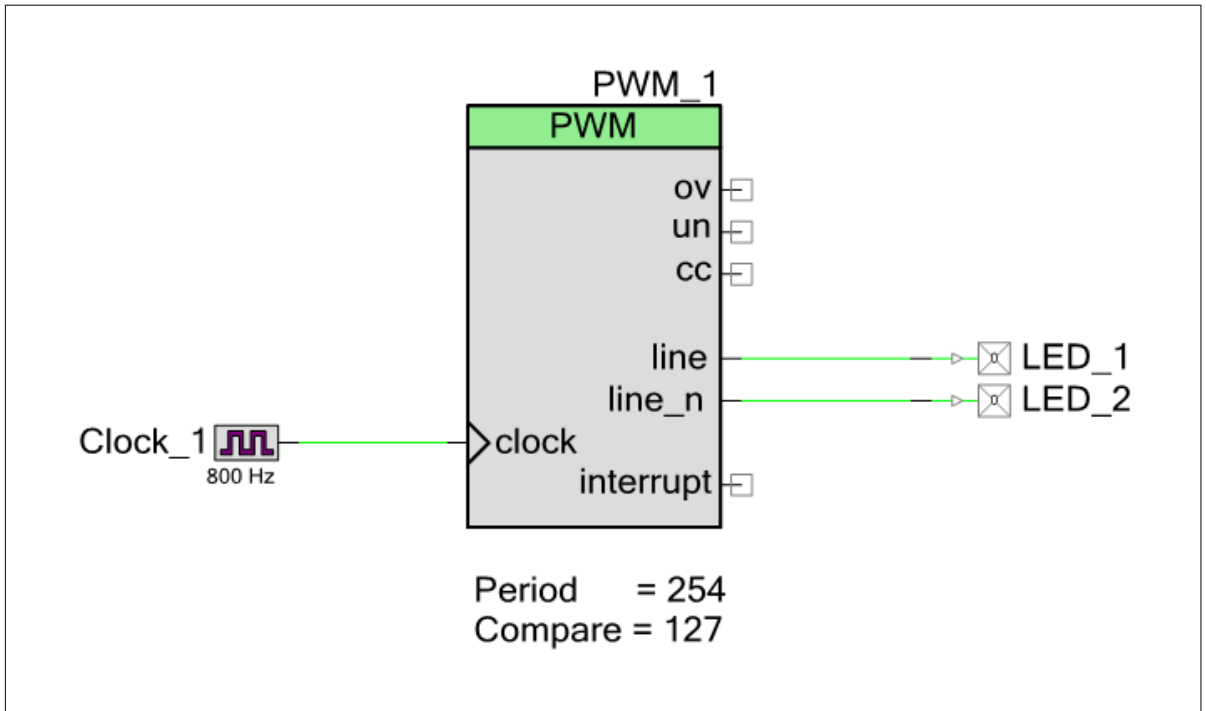

Figure 45 Wiring the schematic
11. Wire the Components together, as shown in Figure 45.